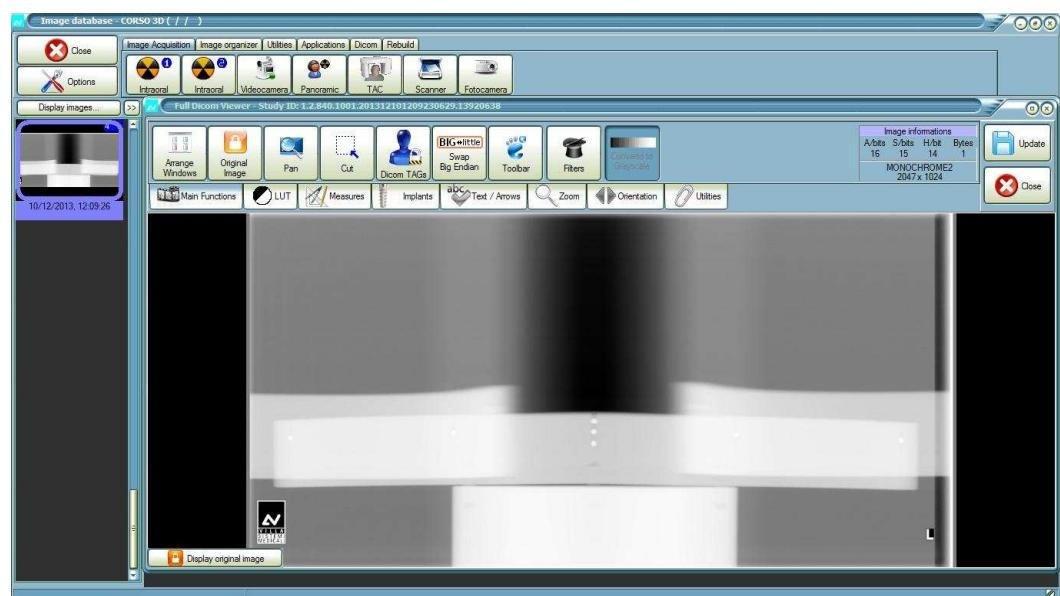

*Figure 7-2
3. Place the centering tool (P/N 6107900200 - Figure 7-2) on the chin rest and the sensor calibration tool (P/N 5607900800 - Figure 7-3) in front of the sensor fixing it with tape.